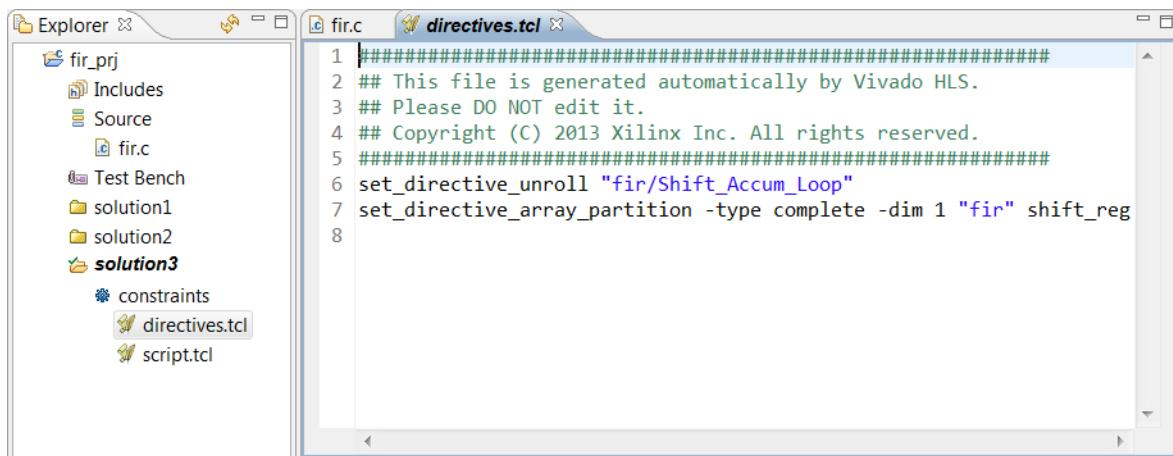

Figure 2-29: Solution3 Directives.tcl File
11. In the Explorer pane, expand the **Constraint** folder in Solution3 as shown in Figure 2-29.